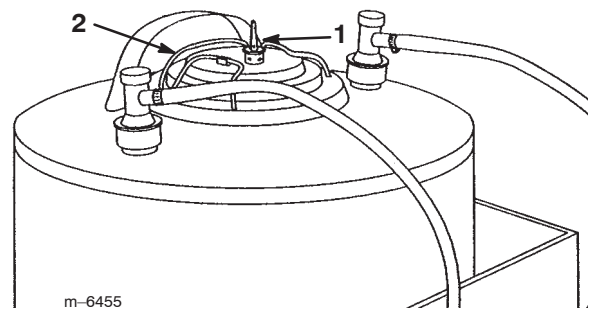

Figure 35
2. Flip the pressure relief valve to the upright position (Fig. 35).
2. Relieve pressure within tank by flipping the pressure release valve into the upright position. (Fig. 35)